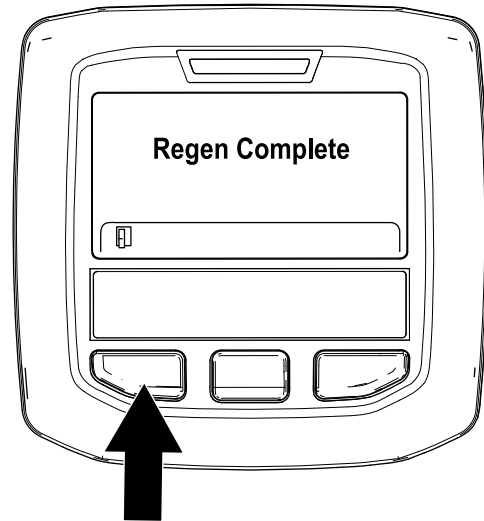

Figure 35
9. The parked regeneration is complete when the "Regen Complete" message displays in the InfoCenter. Press the left button to exit to the home screen (Figure 35).